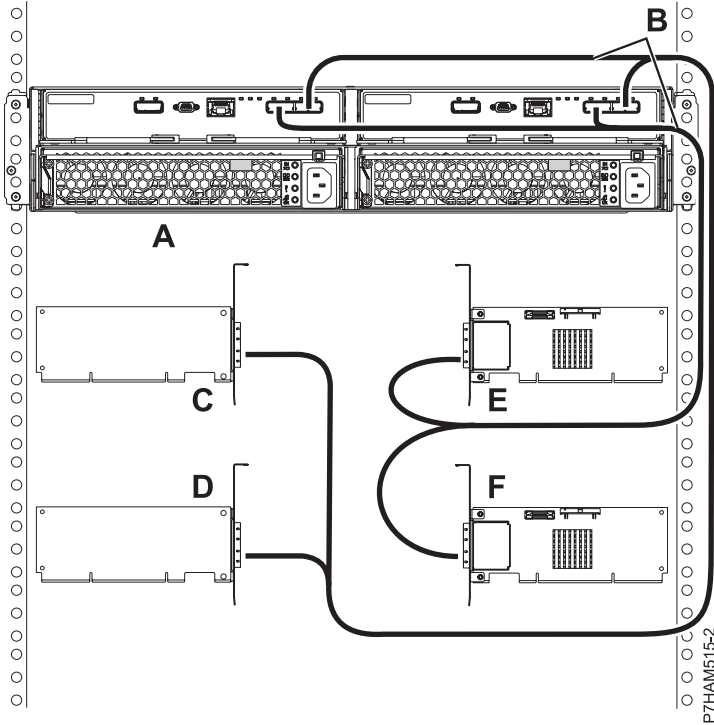

Figure 18. Mode 4 connection of one 5887 disk drive enclosure by using X cables to four independent SAS adapters
19. Perform the mode 4 connection of one enclosure (A) by using X cables (B) to four independent SAS adapters. See Figure 18 on page 19.